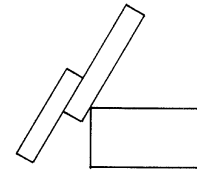

Figure 2.4
2. Position the metal so that the joint to be welded is in the flat position. (See Figure 2.4.)